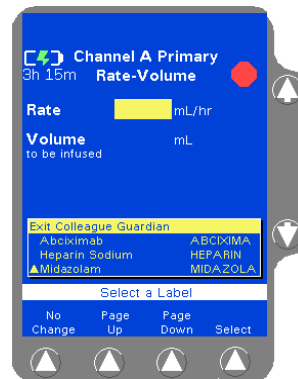

Figure 11-8 Colleague Guardian Label List
2. Press the **Colleague Guardian** soft key. The labels for which COLLEAGUE GUARDIAN limits have been defined are displayed in a pop-up window (Figure 11-8).